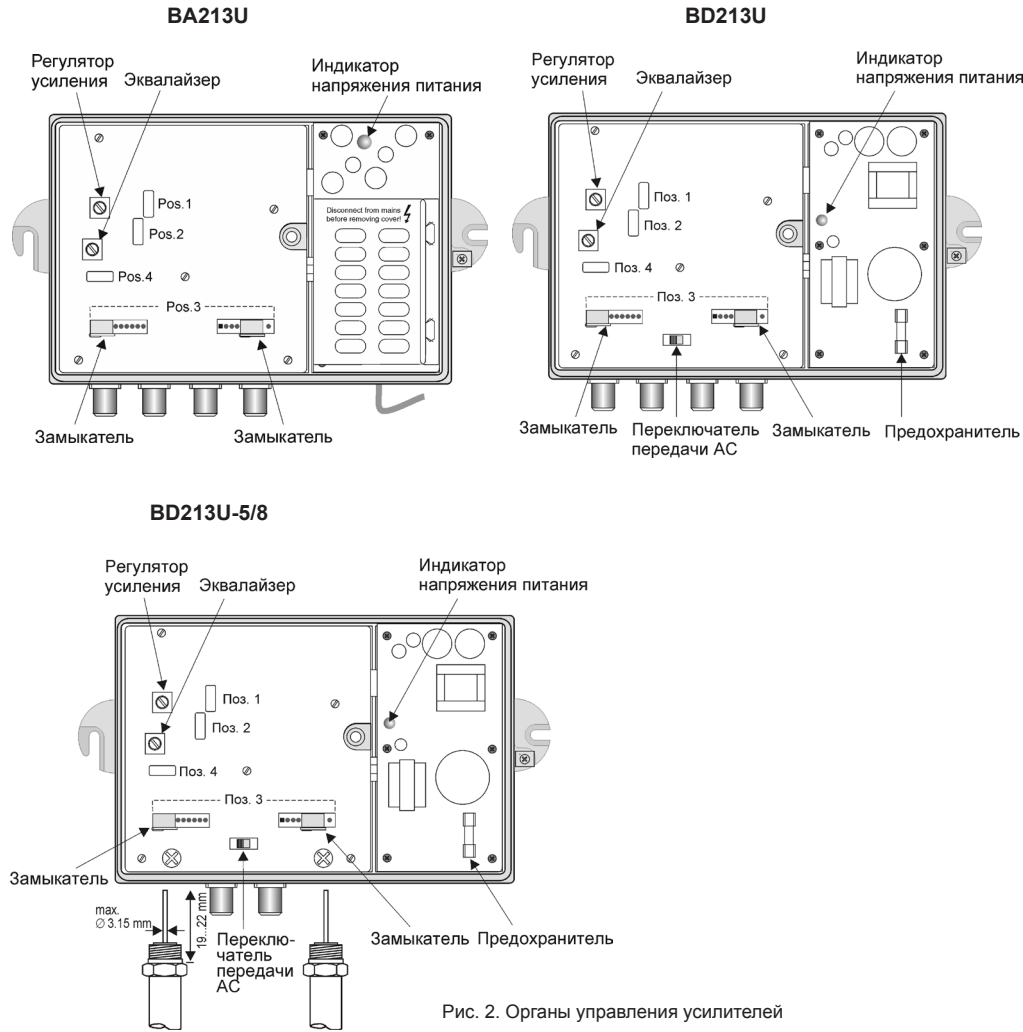

Рис. 2. Органы управления усилителей
The amplifier with remote power supply (BD213U, BD213U-5/8) is supplied with 24...65 V~ via coaxial cable to RF input of amplifier. The voltage can be passed to RF output with a help of a switch (see Figure 2).
Power unit activity is indicated by the powering indicator (see Figure 2).
To optimize the gain of the amplifier, interstage attenuator is used (see Figure 2, pos.1). If the attenuator is placed between stages of the forward path amplifier a noise figure will increase much less than in case when the attenuator is inserted before the stages.